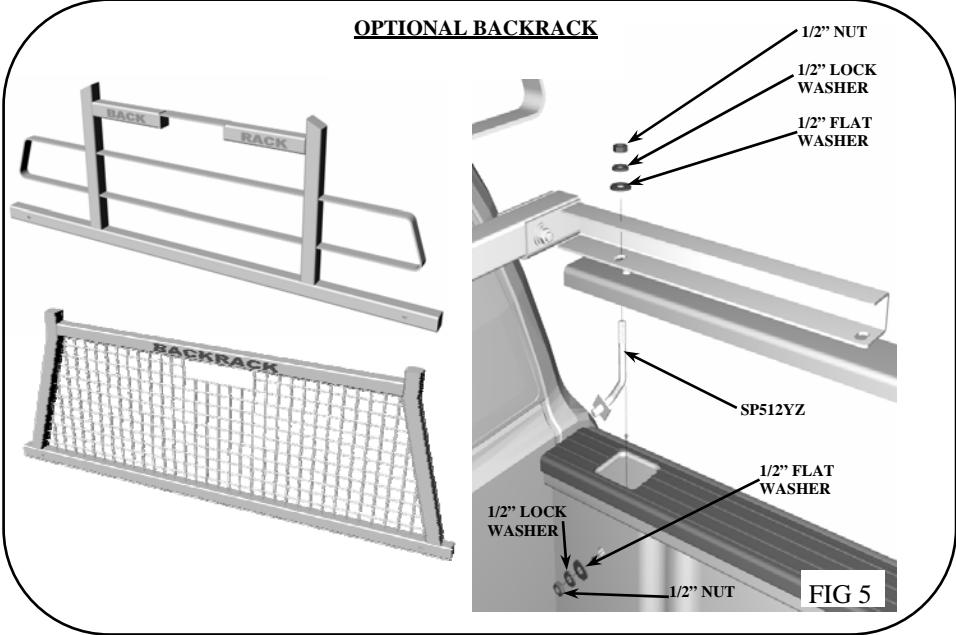

**FIG. 1 SIDERAIL
- SIDERAIL should have the angle lip towards the inside of the truck box, with the name facing the outside of the truck. Lower the side rail into position, slowly, lining up the stake pocket bolts. SIDERAIL should drop into place with little effort. Do not hammer or force the SIDERAIL down on the truck bed. These have been designed to drop into the pockets of your truck with ease. If supplied, place the foam strips along the underside of the SIDERAIL to prevent scratching. See Figure 1.